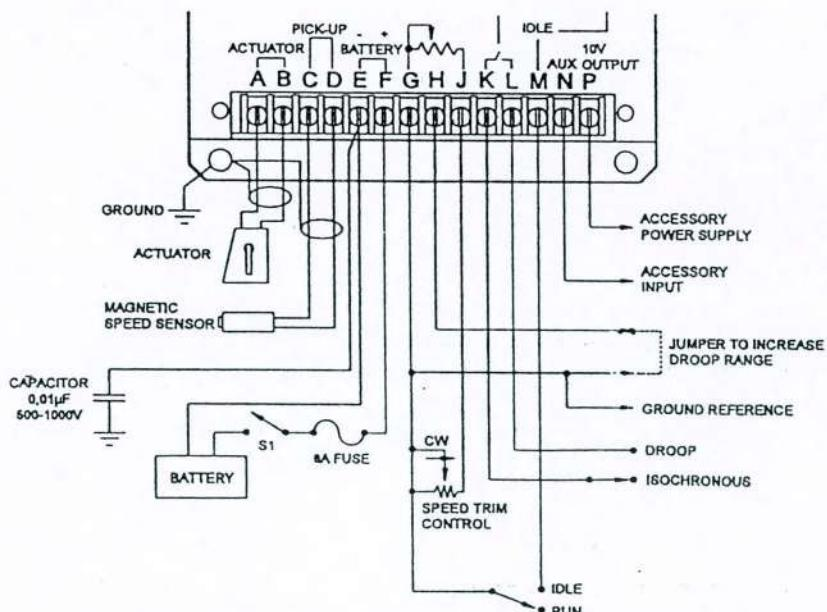

Fig. 11
2. The magnetic pickup must be connected to the control unit using shielded cable as shown in the wiring diagram, fig. 11.